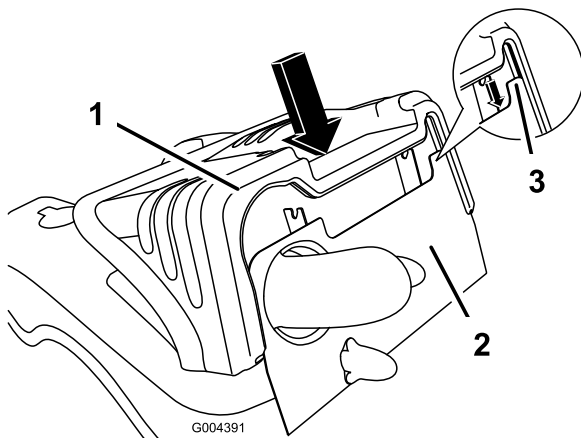

Figure 29
1. To install the hood, align the slot in the hood with the frame and carefully lower it onto the frame (Figure 29). Make sure the frame seated correctly in the engine hood groove before forcing the hood down. Push down gently to seat the retaining pin.